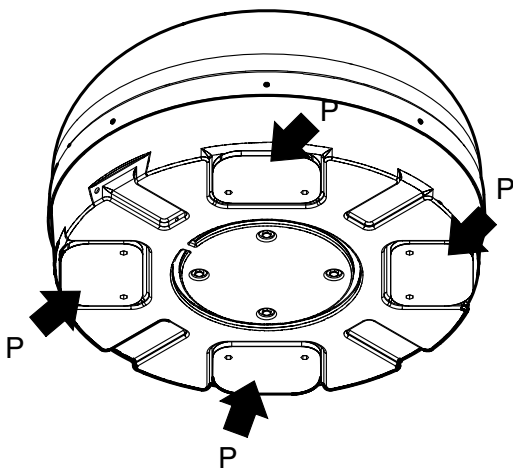

Fig. 6
3. Carefully clean the 4 mounting plates (P) on the antenna and the vehicle roof with alcohol and let evaporate before applying the sealant (**Fig. 6**).